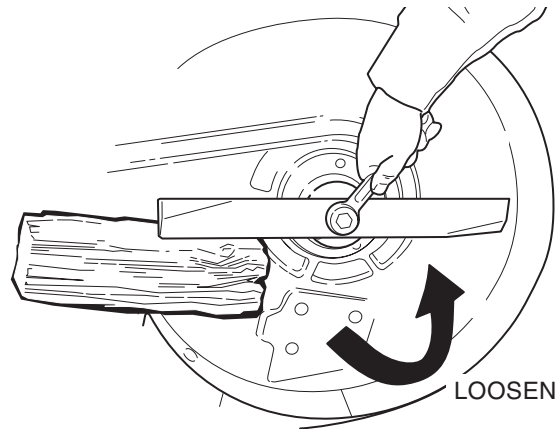

Figure 18. Blade Removal
2. See Figure 18. Remove blade to inspect it or to safely access the underside of the mower deck. Use a block of wood to prevent blade rotation while loosening the capscrew by turning it counterclockwise.